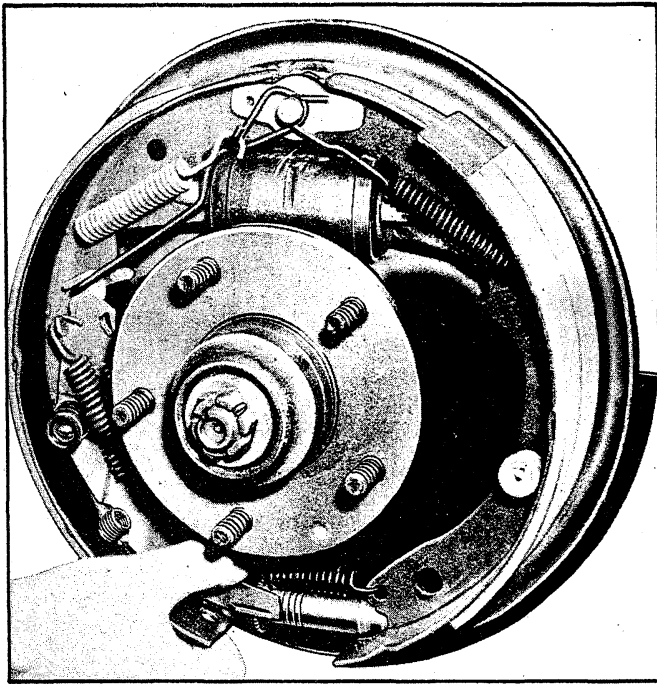

Fig. 30—Checking Operation of the Actuating Lever
15. After completing installation, make certain the actuator lever functions easily by hand operating the self-adjusting feature (fig. 30).